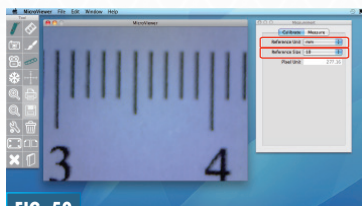

FIG. 59
1. Place a scale under the camera and adjust the focus knob until the image is sharp (**Fig. 59**).